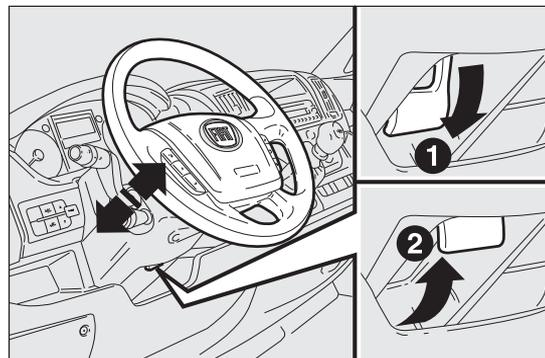

fig. 40
- release the lever fig. 40 by pulling it towards the steering wheel (position 2);